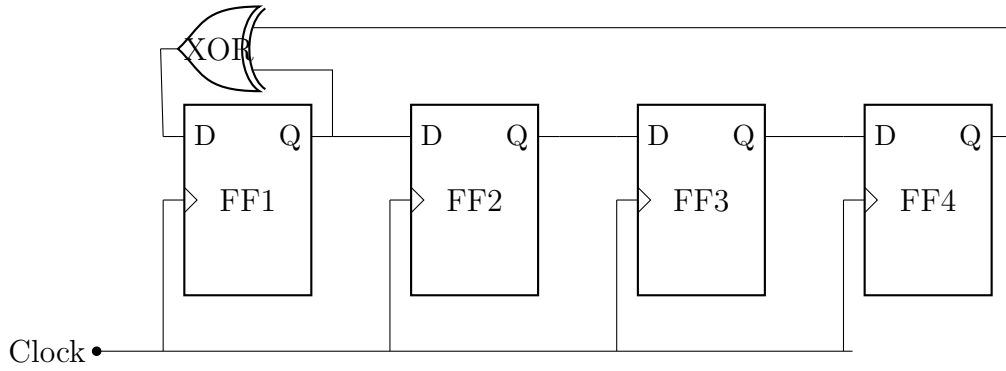

Figure 3: Connection in XOR gate
4. The next connection is XOR gate (7486 IC) according to the figure 3